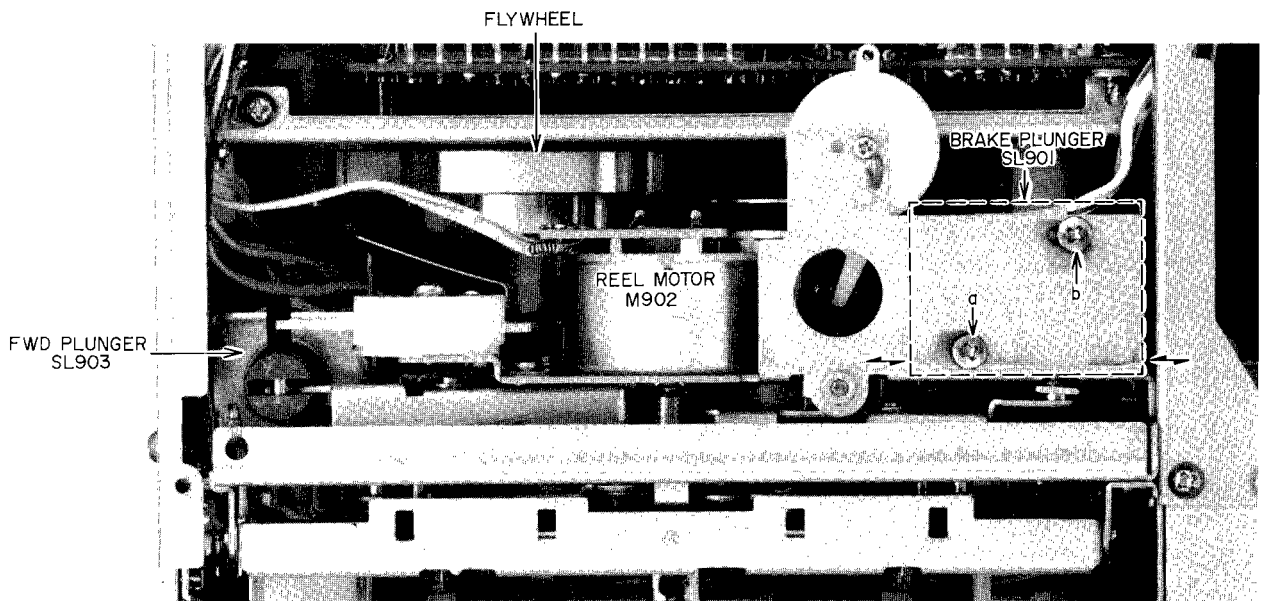

Fig. 10
- 2) Brake Plunger Adjustment (Refer to Figs. 10, 11)